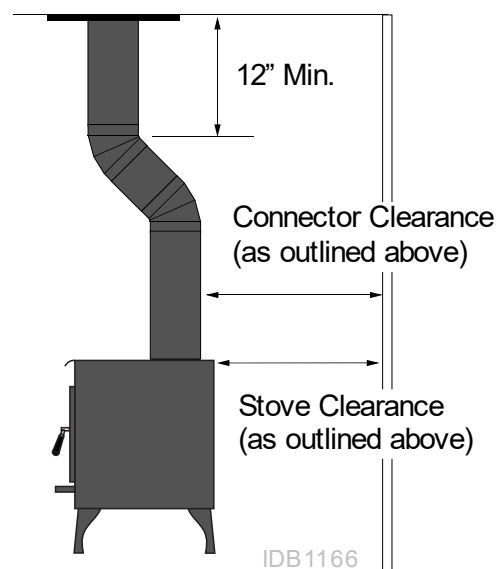

Figure 7
- If using offsets, use the connector clearance listed in Figure 7, not the connector manufacturer's clearance.